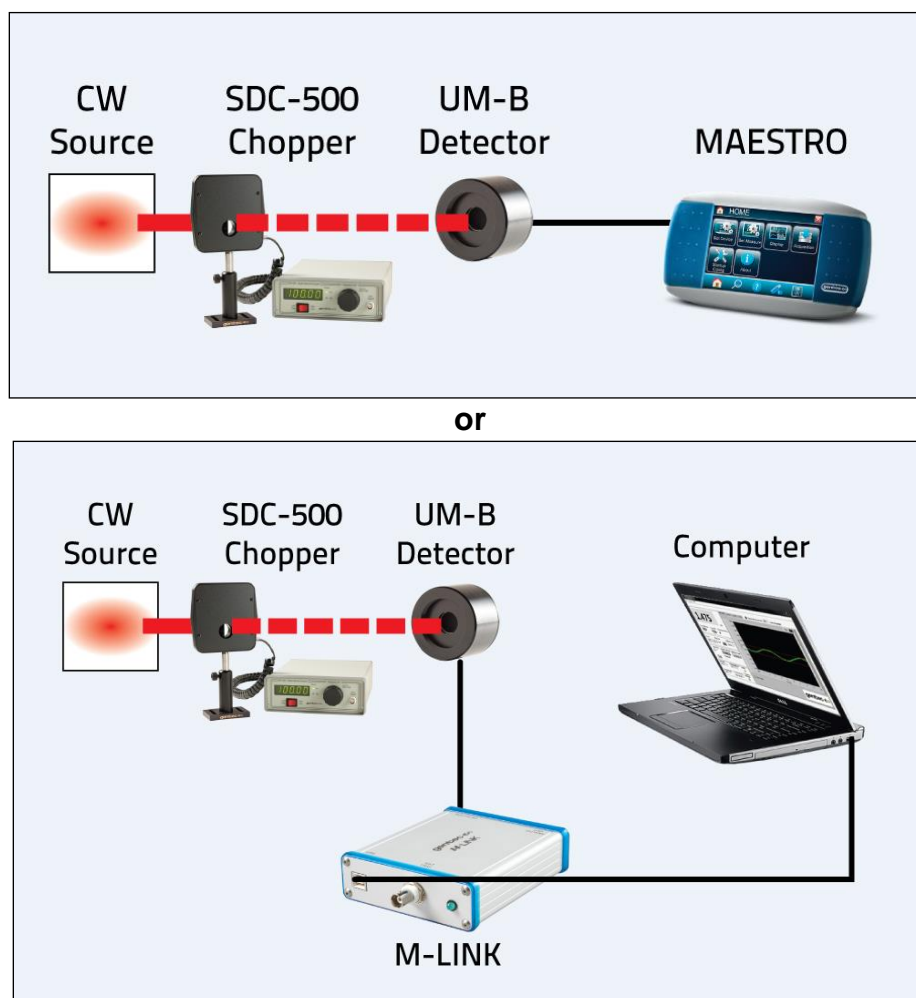

Figure 2.1: UM9B-BL-D0 with monitor
- 2- Connect the wattmeter to a compatible Gentec-EO laser power monitor (see Fig. 2-1). (Refer to specifications)